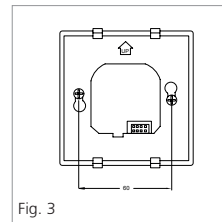

Fig. 3
3. Fix the mounting plate to the wall using either a recessed or surface mounted back box using the screws provided. See Fig 3.